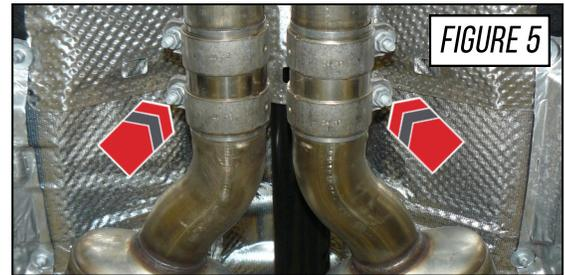

FIGURE 5
Starting from the rear of the car, support the OEM rear mufflers and loosen the four (4) 13mm bolts that secure the sleeve clamps into place, as shown by the arrows in **Figure 5**.